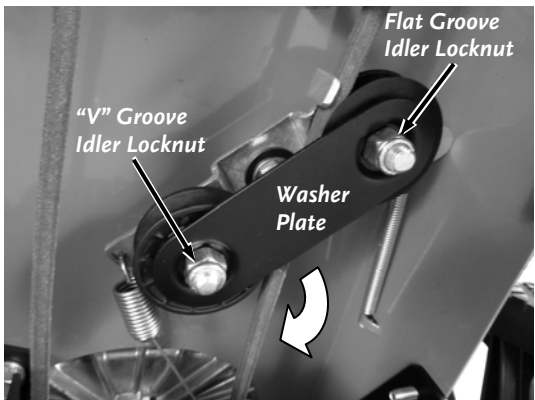

Figure 30
5. Remove the Locknut that secures the Washer Plate to the flat groove Idler Pulley using a 9/16" Wrench. Loosen the other Locknut to the V groove Idler Pulley using a 9/16" Wrench just enough so the Washer Plate can be rotated out of the way (Figure 30).
15. Rotate the Washer Plate onto the Flat Groove Idler Stud and install the Locknut using a 9/16" Wrench (**Figure 30**). Tighten the "V" Groove Idler Locknut using a 9/16" Wrench.